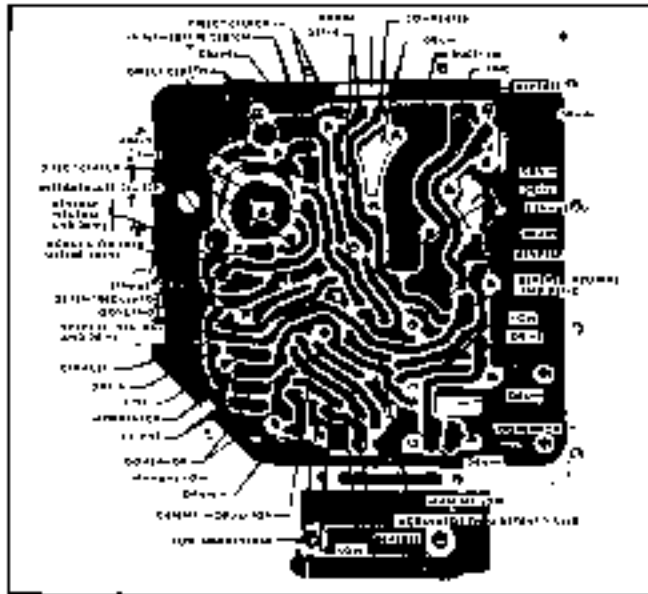

Fig. 7G-94 Case Passage Identification - Bottom View
2. Inspect case for cracks, porosity or interconnected passages, using air gun or smoke (Figs 7G-76 and 7G-77).